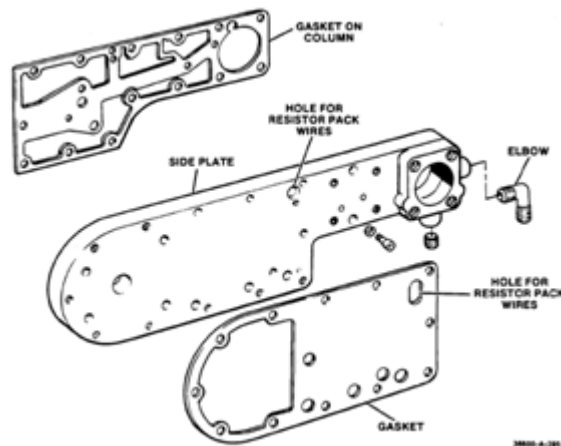

Figure 5-45. Side Plate
17. Thread resistor pack side plate, gasket, and wires through gasket, hole in column (Figures 5-45, 5-46).